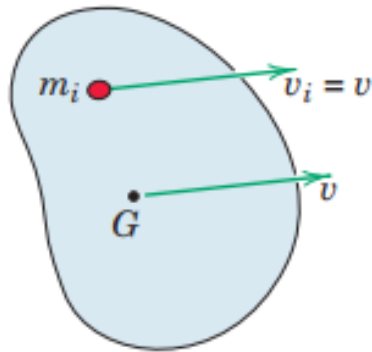

Figure 7. Translation
- The translating rigid body of Fig. 7 has a mass  $m$  and all of its particles have a common velocity  $v$ .